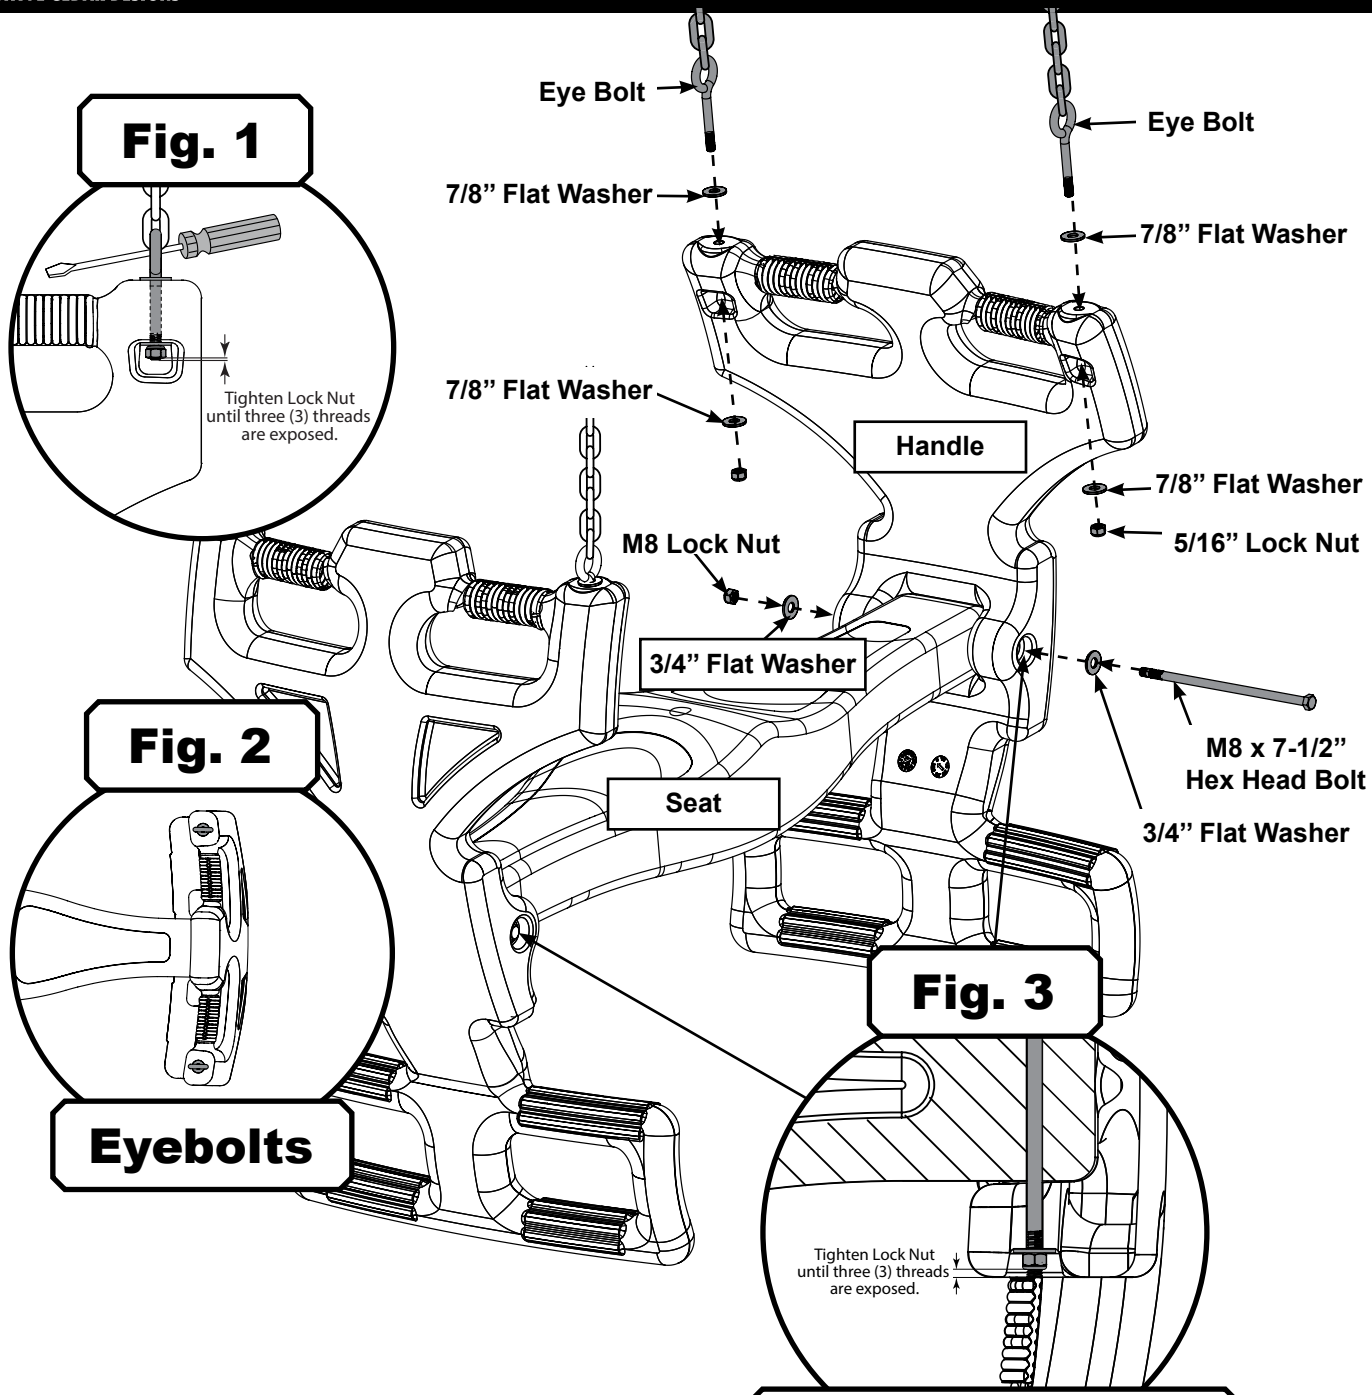

Fig. 1
1. Attach Eye Bolt side of (4) chains to (2) Swing Handles as shown, using an open end wrench to hold the Lock Nut in place while spinning the Eye Bolt with a screwdriver until tight as shown in **(Fig. 1)**. Once fully tightened, make certain all (4) Eye Bolts are aligned, as shown in **(Fig. 2)**.